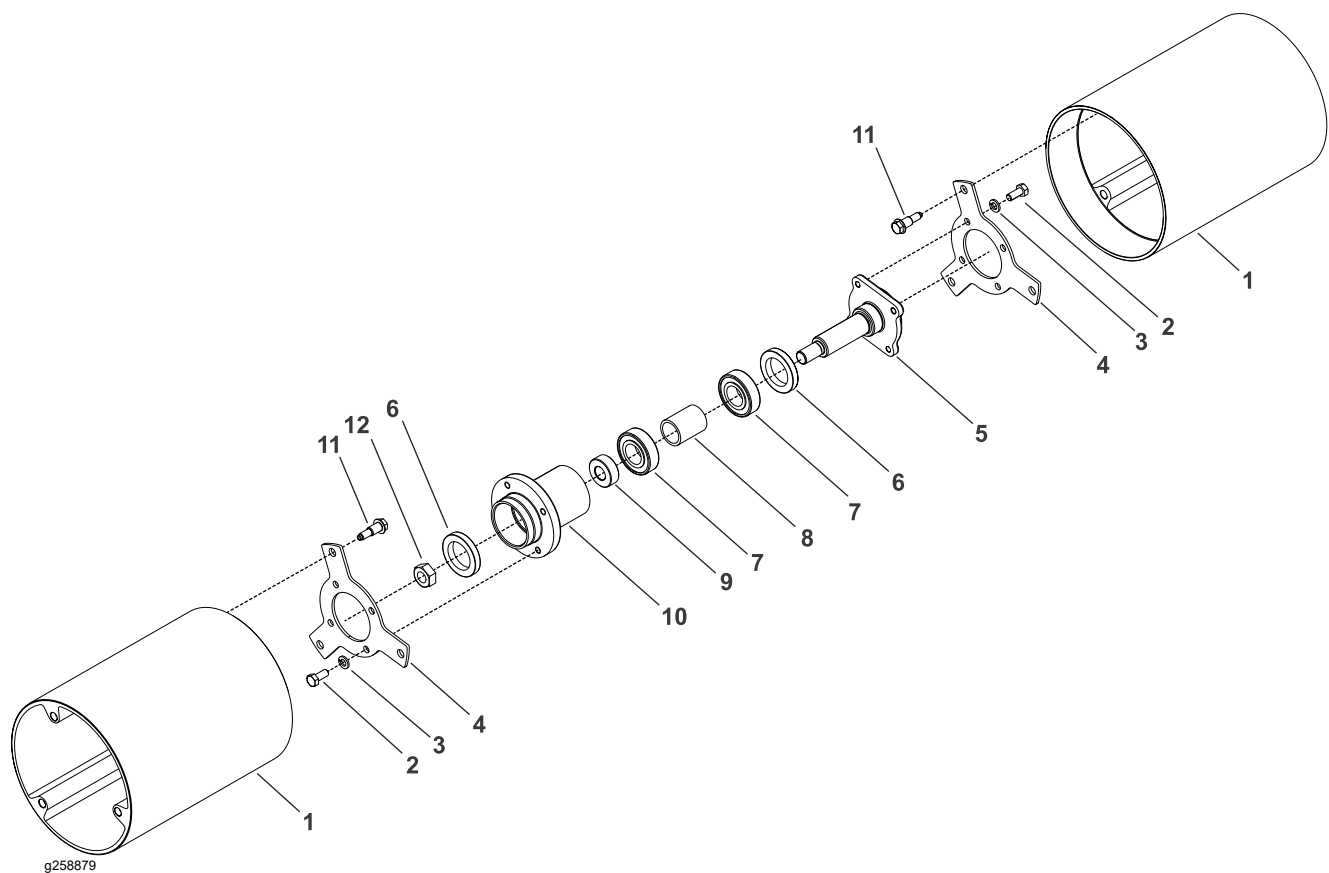

Figure 21
Note: Refer to Figure 21 during this procedure.
1. Remove the 4 bolts (item 2 in Figure 21) and lock washers (3) that secures the drum hub plate (4) to the drum spindle (5).
2. Remove the 4 bolts (2) and lock washers (3) that secures the drum hub plate (4) to the drum hub (10).
3. Remove the shoulder bolts (11) that secures the drum hub plate (4) to the traction drum (1).
4. Remove the lock nut (12) that secures the drum spindle (5) and drum hub (10) together. Carefully slide and remove the drum spindle (5) out of the drum hub (10).
5. Remove the 2 seals (6) from the drum hub (10). Use a press to remove the 2 ball bearings (7) and a bearing spacer (8) from the drum hub (10). Discard the ball bearings.
Note: The fit between the drum hub plate (item 4 in Figure 21) and drum (1) is a close tolerance and can be easily jammed. The hub can be rotated when seated properly in the bore of the drum.
5. Secure the drum hub plate (4) to the drum hub (10) with the 4 bolts (2) and washers (3). Tighten the bolts using an alternating pattern. Repeat tightening sequence a second time.
6. Secure the drum hub plate (4) to the drum spindle (5) with the 4 bolts (2) and washers (3). Tighten the bolts using an alternating pattern. Repeat tightening sequence a second time.